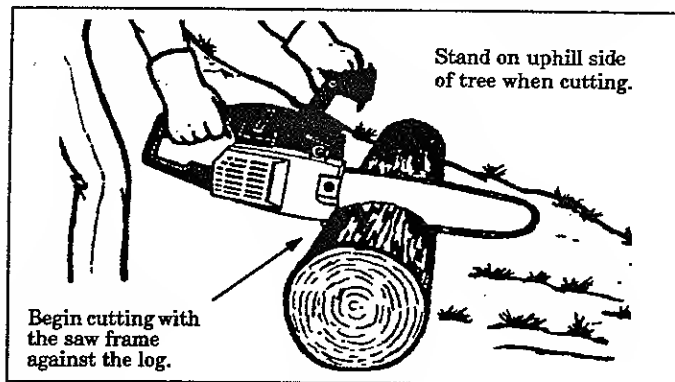

Figure 13
- b. **Begin cutting with the saw frame against the log.** Figure 13.